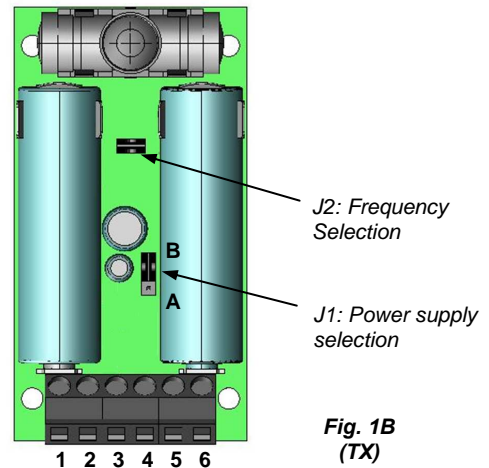

Fig. 1B (TX)
- Make connections as indicated in the previous paragraphs and select the transmitter power supply with the specific jumper (J1, Fig. 1B):
- Connect to the specific terminal strip (terminals 3 & 4, Fig. 1B) the safety edge or external safety device contact to the transmitter. **If this option is not used, jump terminals 3 and 4.**
- Connect to the specific terminal strip (terminals 5 & 6, Fig. 1B) the contacts of the 8K2 resistive edge external to the transmitter. **If this option is not used, leave the supplied resistor connected between terminals 5 and 6.**